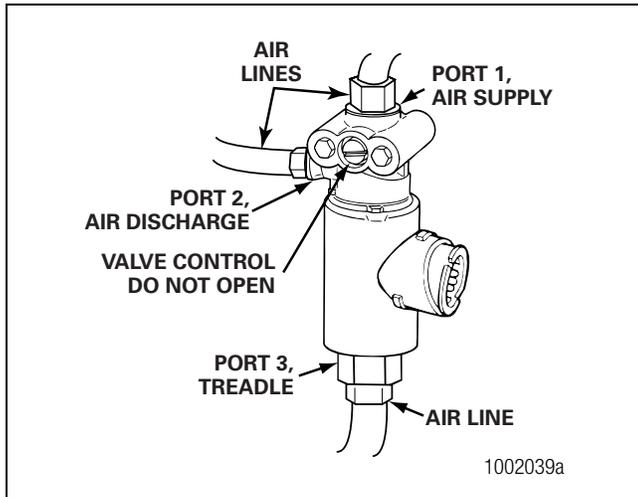

Figure 4.5
5. Disconnect the air lines from Port 1 (air supply), Port 2 (air discharge) and Port 3 (treadle) of the ATC valve. Figure 4.5.